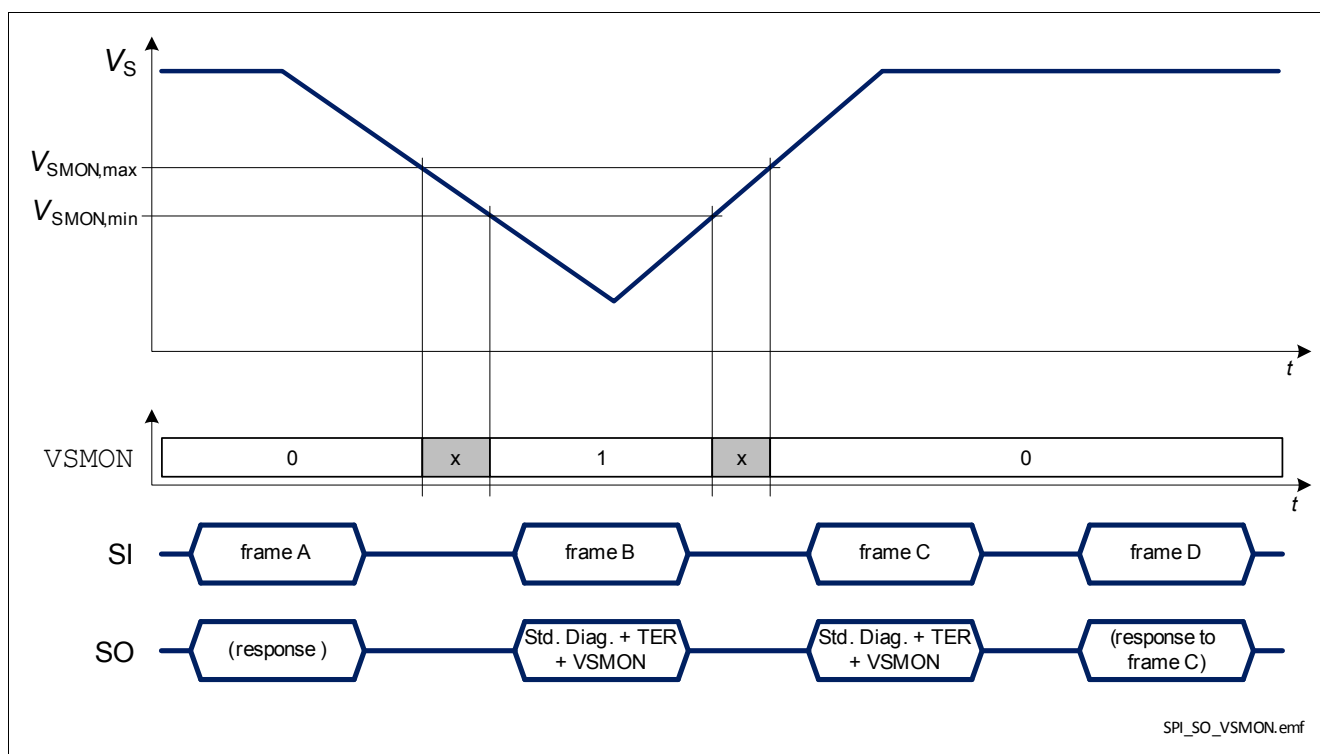

Figure 35 BTS56033-LBB response in case of a negative battery voltage transient
- when $V_S < V_{\text{SMON}}$ and $\text{DCR.MUX} \neq 111_{\text{B}}$, as shown in Figure 35